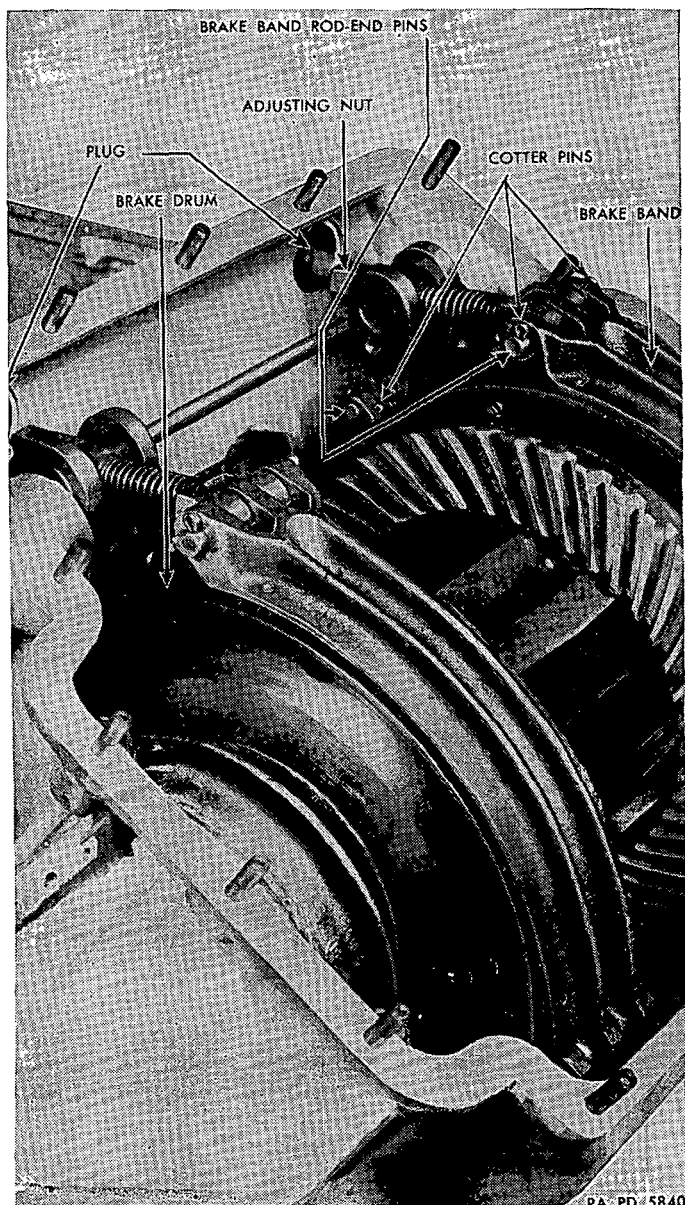

FIGURE 59.—Steering brake bands.
b. Steering brakes.—(1) *Adjustment* (fig. 59).—(a) Remove pipe plugs (figs. 6 and 17).
(2) *Replacement of brake bands* (fig. 59).—(a) *Removal*.